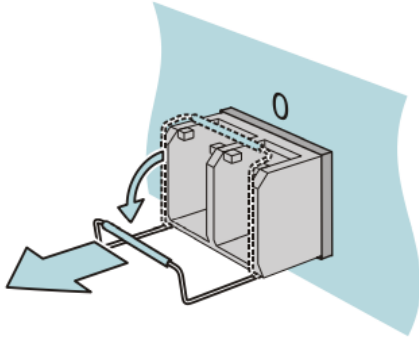

Figure 31: Releasing the lock
- ☐ Release the lock and pull the SFP transceiver out of the device slot. See Figure 31.